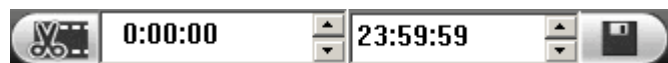

Figure 5-9
- In this following figure, input start time and end time. See Figure 5-9. Click save button .